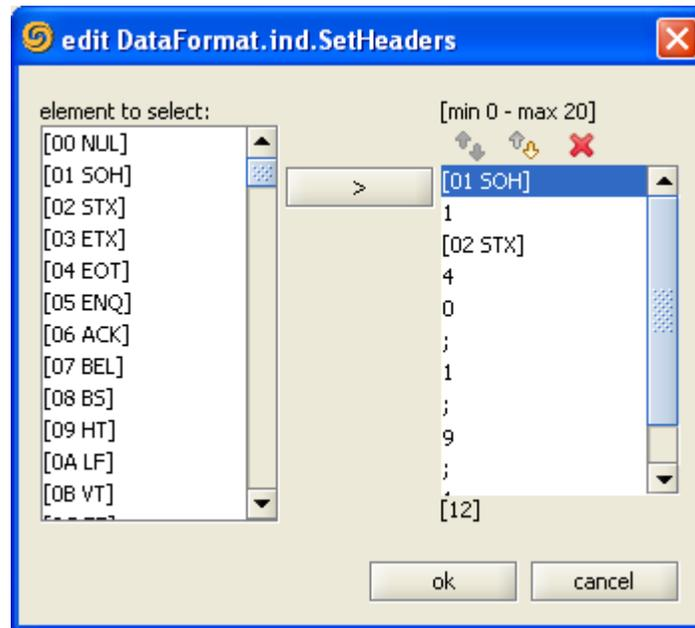

Figure 6. edit Data Format for Global Prefix and Global Suffix
- b. Set the "Global Prefix" to "[01 SOH] 1 [02 STX] 4 0 ; 1 ; 9 ; 1 ;" (refer to Figure 6) ²Note